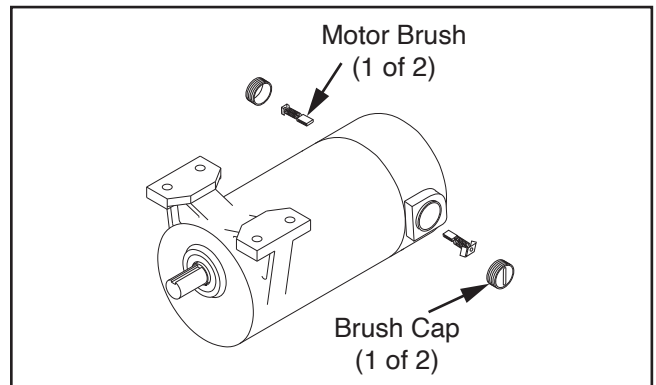

Figure 56. Motor brush and cap installation sequence.
4. Insert new motor brush, then install brush cap (see **Figure 56**).